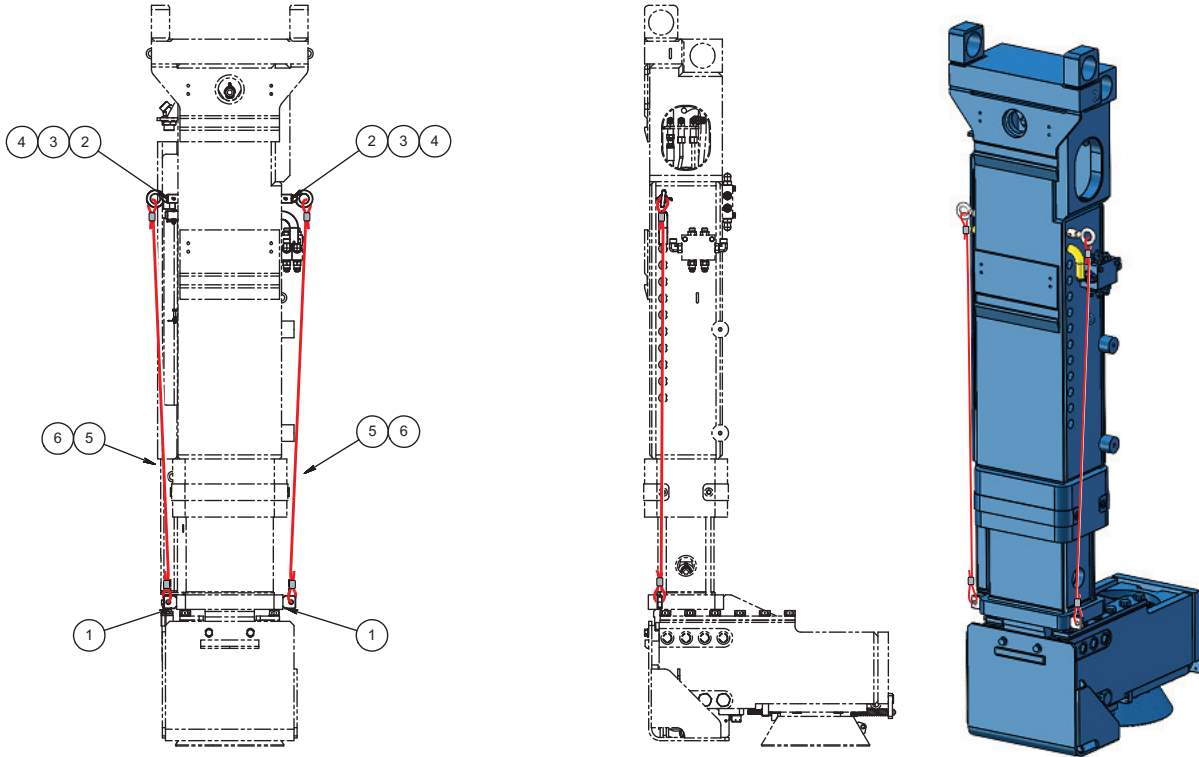

Figure 6: Safety securement detail for the calibrated extended position
- Lower the BUW to the calibrated retracted position for the desired operating height and install the pin and eye bolts (items 2 and 3) in the hole directly above the stop pin and install the cotter pins (item 4). See Figure 6 on page 6
- Lower the BUW to the calibrated extended position for the desired operating height and use 1/4" safety wire (item 5) and 1/4" ferrules (item 6) to safely secure the weld plate (item 1) and the eye bolt (item 3) together on both sides, as shown in Figure 6 on page 6. Refer to Canrig Specification 701.